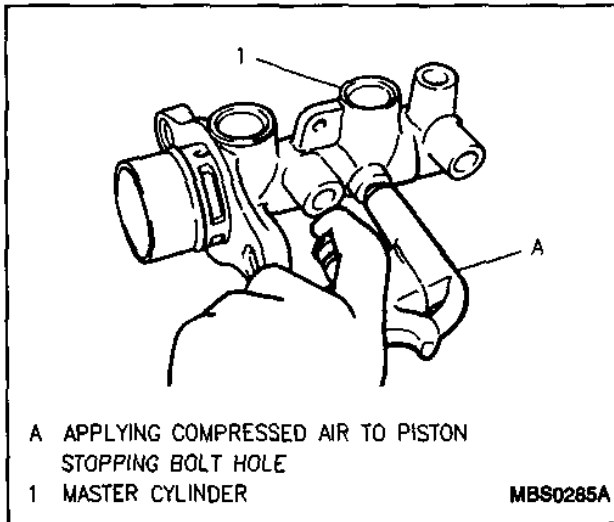

Figure 10—Removing Secondary Piston
4. Using a wooden or plastic dowel, compress piston, cylinder cup, plate and piston stopper (Figure 10).
5. Piston stopper C-clip (Figure 10).